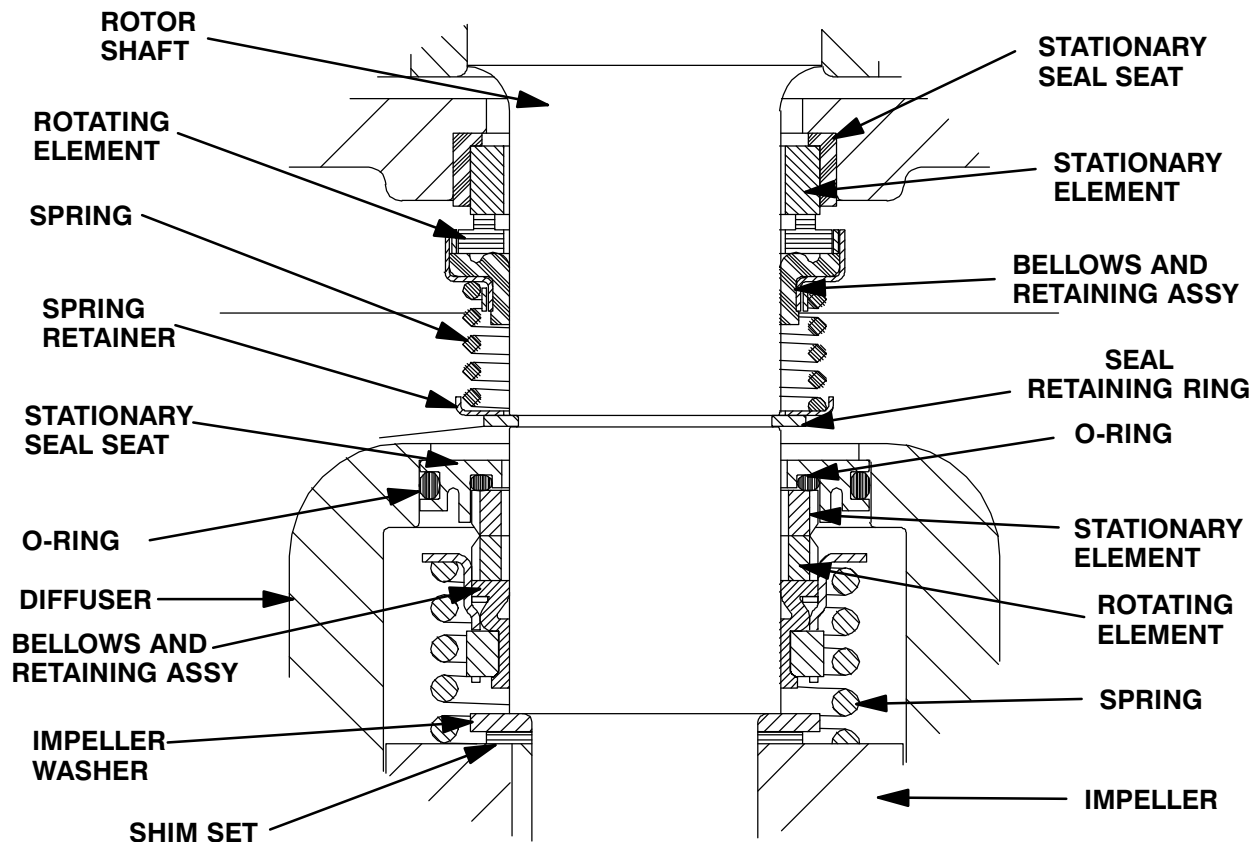

Figure E-3. Upper And Lower Seal Assemblies
Install the shaft seals as illustrated in Figure E-3.
Slide the seal spring over the shaft and bellows retainer, and install the spring retainer. Install the seal retaining ring (34). See Figure E-3 for the proper order of seal assembly.
Slide the seal spring over the shaft and bellows retainer. See Figure E-3 for proper order of seal assembly.